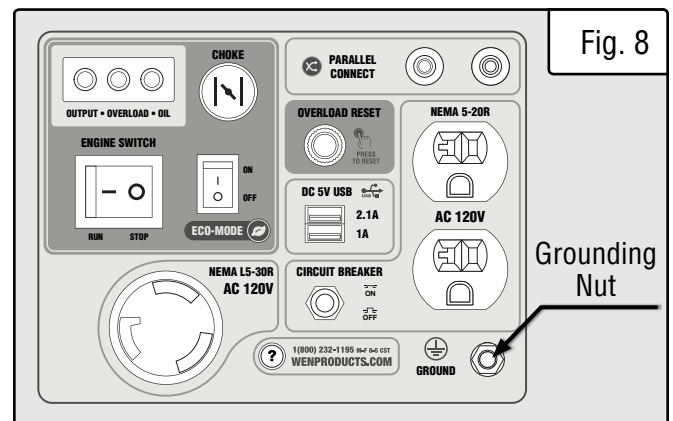

Fig. 8
1. Attach one end of the grounding wire to the grounding nut (Fig. 8). Tighten the nut to secure the grounding wire.